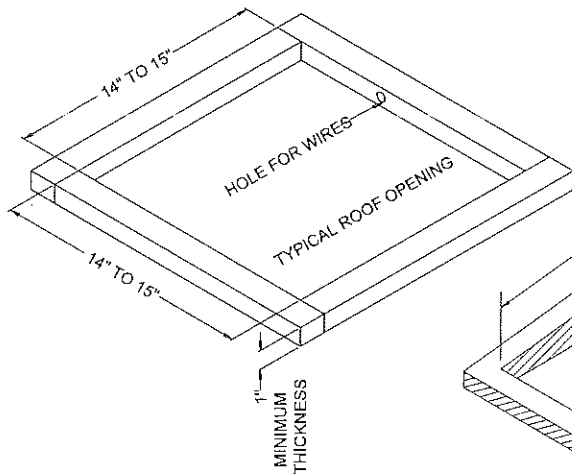

FIGURE 1
a mounting frame must be field fabricated to reduce the opening size (See Figure 1).
- B. If a roof vent opening is not used, a new opening (See Figure 1) will have to be cut into the vehicle roof. A matching opening will also have to be cut into the interior vehicle ceiling. Be careful when cutting the ceiling opening. If the ceiling opening is carpeted, snagging could occur. After the opening in the roof and interior ceiling are the correct size, a framed support structure must be provided between exterior roof top and interior ceiling. The reinforced framed structure must provide the following guidelines:
Airxcel's 48000 ROUGHNECK series requires that the spacing from the vehicle roof top to the interior ceiling be no less than 1". A typical support frame is shown in Figure 1.